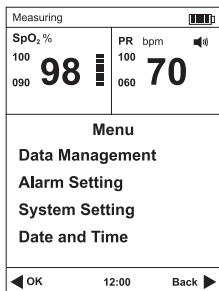

Fig.3.1
- 1) Press the power switch for 3 seconds to power on the oximeter and then press the menu button to enter the main menu, refer to the Fig.3.1.